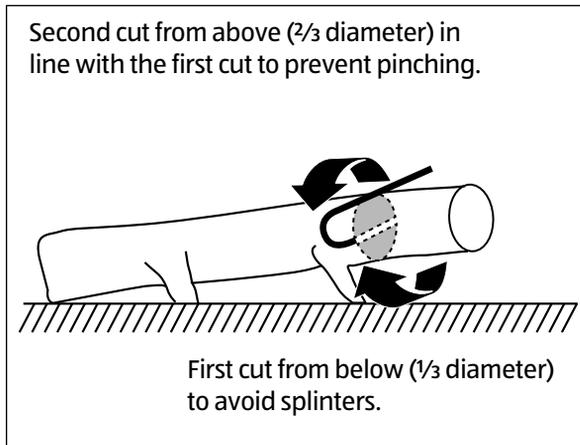

Fig. 5
- When the tree is supported on one end, first cut $\frac{1}{3}$ of the diameter of the log from the bottom side, then $\frac{2}{3}$ from the top side in line with the underbuck (see **Fig. 5**).